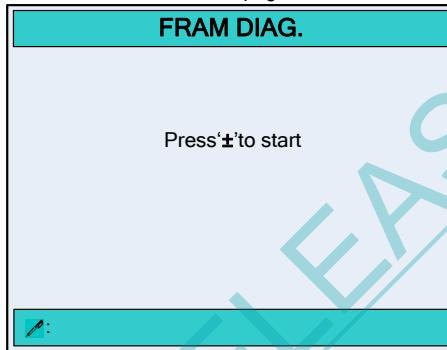

Figure 4-5 The **FRAM DIAG.** page
On the DIAGNOSE page, move the cursor to parameter **4.KEY DIAG.** (or press the number key 4), and press to enter the **KEY DIAG.** page, as shown in Figure 4-5.